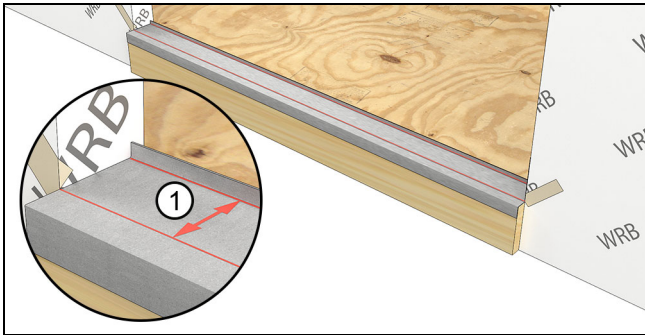
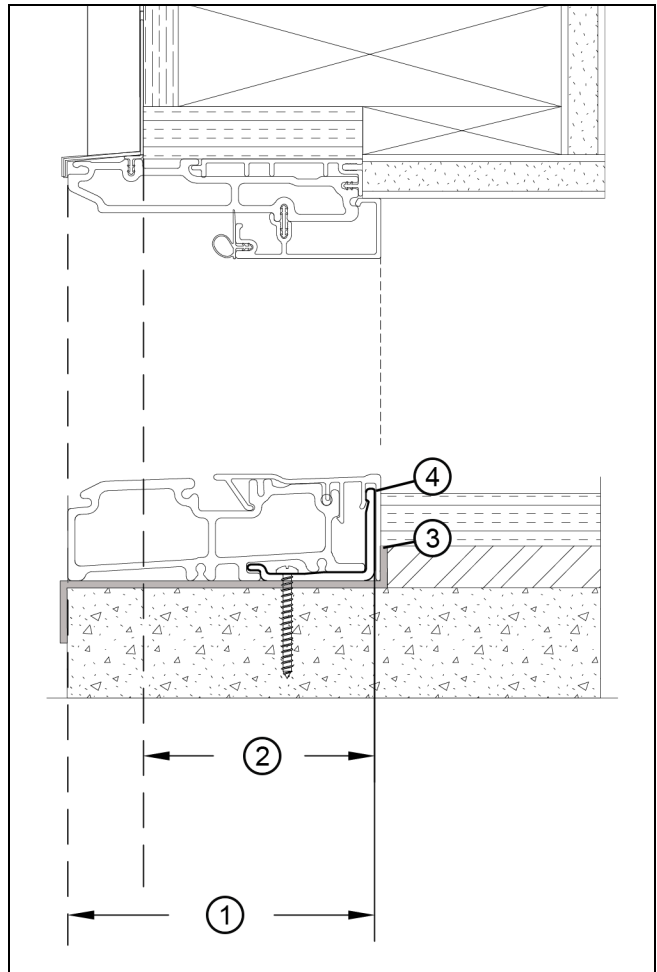

Figure 4
Figure 5
1. Determine the exterior plane of your door installation. You will fasten the sill support  $3\frac{5}{16}$ " from the nail fin plane (in some instances, the exterior sheathing plane). Snap a line or use a laser level for reference while installing the sill support. If you are installing in a recessed opening measure back from the exterior plane of the door by  $4\frac{13}{32}$ ". See Figure 4 and Figure 5.